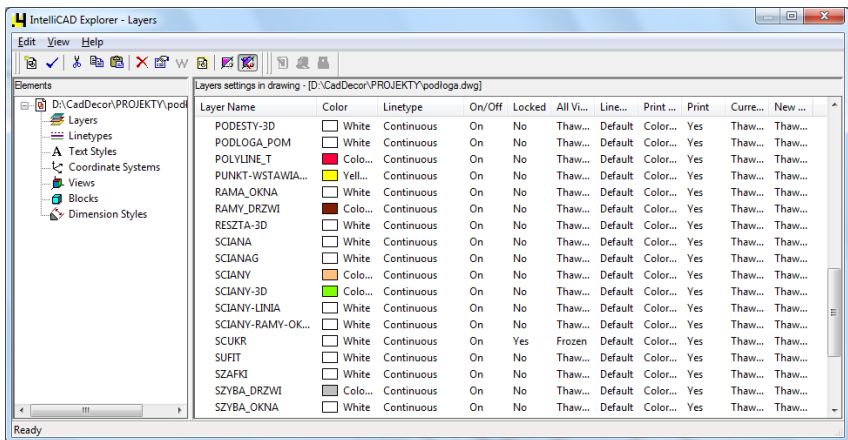

Fig. 115 – IntelliCAD Explorer – Layers
-  **Explore layers...** – opens the **IntelliCAD Explorer** with the **Layer Name** list displayed (Fig. 115); in which all settings for layers can be modified;